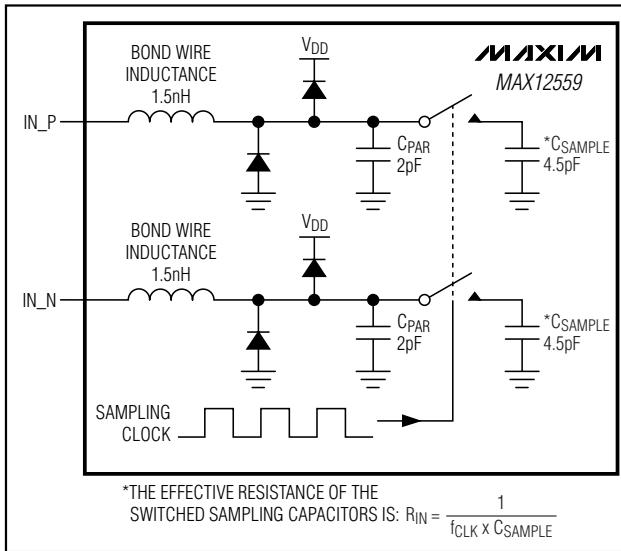
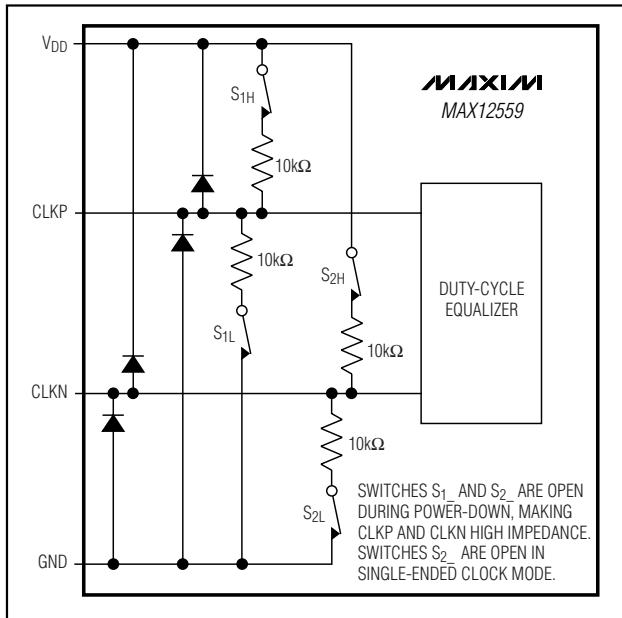

Figure 3. Internal T/H Circuit
Figure 4. Simplified Clock Input Circuit
Figure 3 displays a simplified functional diagram of the input T/H circuit. This input T/H circuit allows for high analog input frequencies (high IF) of 175MHz and beyond and supports a $V_{DD} / 2$ common-mode input voltage.
The MAX12559 sampling clock controls the switched-capacitor input T/H architecture (Figure 3) allowing the analog input signals to be stored as charge on the sampling capacitors. These switches are closed (track mode) when the sampling clock is high and open (hold mode) when the sampling clock is low (Figure 4). The analog input signal source must be able to provide the dynamic currents necessary to charge and discharge the sampling capacitors. To avoid signal degradation, these capacitors must be charged to one-half LSB accuracy within one-half of a clock cycle. The analog input of the MAX12559 supports differential or single-ended input drive. For optimum performance with differential inputs, balance the input impedance of IN_P and IN_N and set the common-mode voltage to mid-supply ($V_{DD} / 2$). The MAX12559 provides the optimum common-mode voltage of $V_{DD} / 2$ through the COM output when operating in internal reference mode and buffered external reference mode. This COM output voltage can be used to bias the input network as shown in Figures 9, 10, and 11.
The MAX12559 accepts both differential and single-ended clock inputs with a wide 25% to 75% input clock duty cycle. For single-ended clock input operation, connect DIFFCLK/SECLK and CLKN to GND. Apply an external single-ended clock signal to CLKP. To reduce clock jitter, the external single-ended clock must have sharp falling edges. For differential clock input operation, connect DIFFCLK/SECLK to OVDD. Apply an external differential clock signal to CLKP and CLKN. Consider the clock input as an analog input and route it away from any other analog inputs and digital signal lines. CLKP and CLKN enter high impedance when the MAX12559 is powered down (Figure 4).
- 1) INAP/B, INAN/B analog inputs are disconnected from the internal input amplifier (Figure 3).